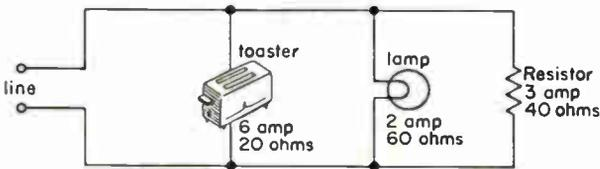

Fig. 5
4. In the circuit in Fig. 5, a toaster, a lamp, and a resistor are connected across a voltage source. The resistance of each unit and the current drawn by each unit are marked. Using the formula $P = IR$, where I is in amperes and R is in ohms, find the power used by each of the three devices.